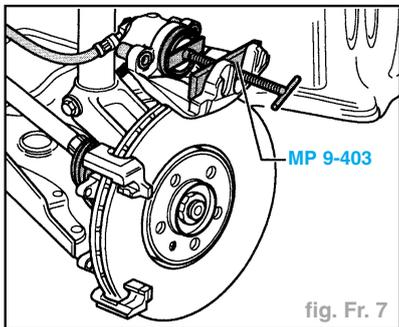

fig. Fr. 7
- Repousser le piston (fig. Fr. 7).